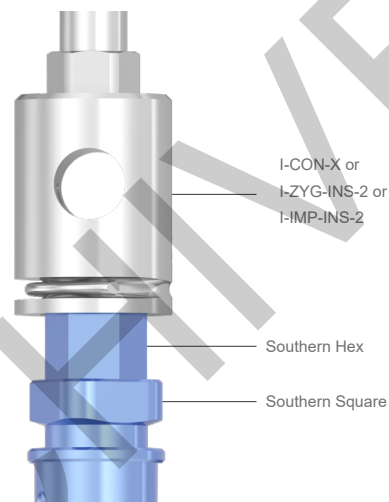
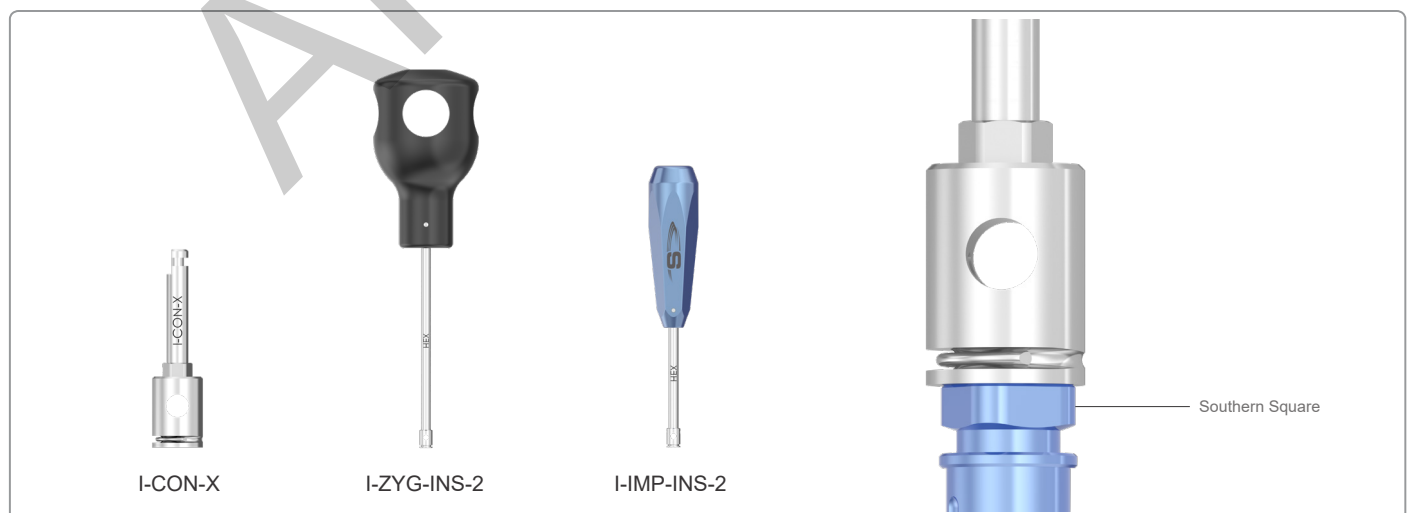

Figure 2: Not fully engaged I-CON-X/I-ZYG-INS-2/I-IMP-INS-2
Figure 3: Fully engaged I-CON-X/I-ZYG-INS-2/I-IMP-INS-2
2. Ensure that the I-CON-X or I-CONU-X/XS is fully engaged as per (Fig. 3). Should the I-CON-X or I-CONU-X/XS not be fully engaged, as per (Fig. 2), damage to the insertion tool and/or fixture mount may occur.
The I-CON-X/I-ZYG-INS-2/I-IMP-INS-2, engages the Southern Hex of the fixture mount. This illustration shows a not fully engaged fixture mount, do not proceed. (Fig. 3) shows the correct engagement.